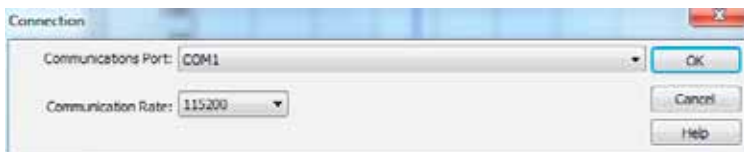

Figure 6-4
- The **Connection** window will appear (see Figure 6-4).